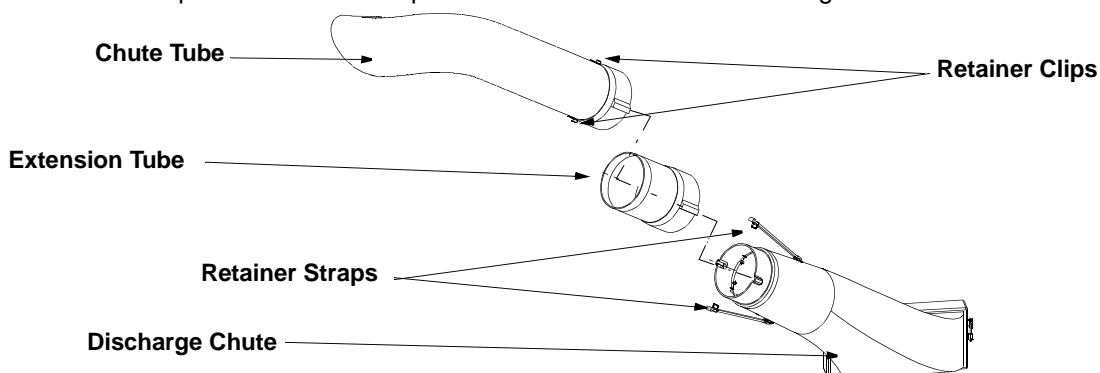

Figure 2
4. Attach the extension tube included in this kit to the top of the bagger discharge chute. Secure it in place by attaching the retainer straps to the retainer clips found on the chute tube. See Figure 2.